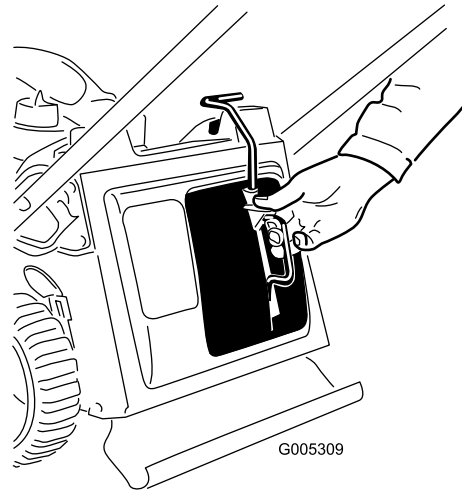
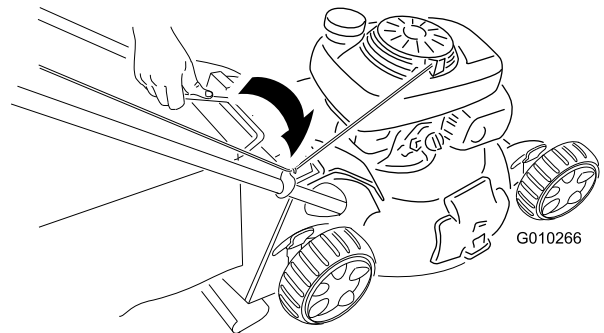

Figure 16
Figure 17
1. Install the mulch plug (Figure 16) or the grass bag (Figure 17) on the machine.